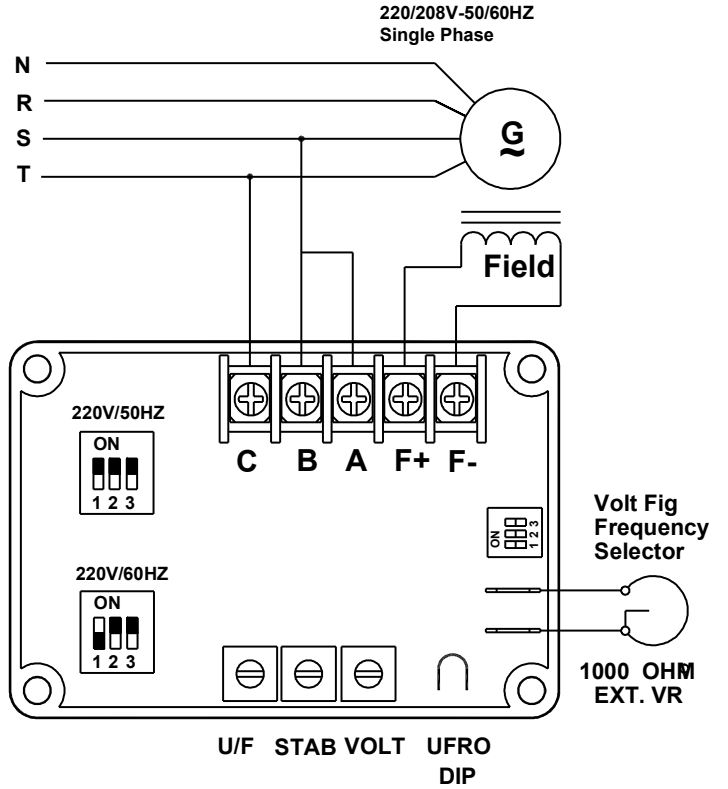

Fig. 3
1. When the rated phase voltage of the generator is 220VAC, the input terminals B, C and sensing terminals A, C are the same (as in figure 3 factory setting). or connect independent. (as show as figure 2).